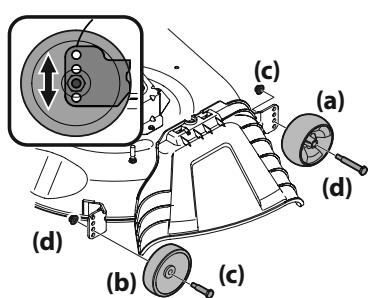

Figure 13
- Remove the front (a) and rear (b) deck wheels by removing the flange lock nuts (c) and shoulder bolts (d) that secure them to the deck. See Figure 13.